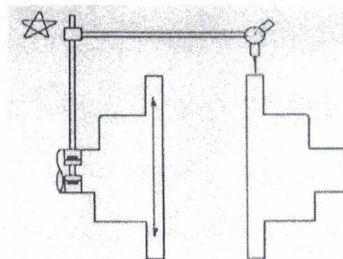

Fig. 2
- Parallel misalignment (Fig. 2)
- To measure parallel misalignment of shafts, fix a dial gauge on the driving side hub and, while rotating the driving shaft, read the dial gauge at the periphery of the driven hub. A parallel misalignment of 2mm per 1,000mm distance between flange faces (D) results in an angular misalignment of  $0.1^\circ$